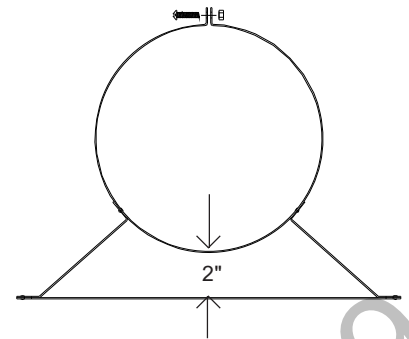

FIGURE 46 - Standard Wall Band
The Standard Wall Band (Figure 46) provides the required 2" (50mm) minimum clearance. For lateral stability of the chimney above the Wall Support, a Wall Band must be installed along an outside wall.
2. Secure the Wall Band bracket to the wall using two (2) 6d (2") spiral nails or #8 x 2" wood screws through the pre-drilled holes (see Figure 46). For concrete or brick veneer walls, use suitable masonry fasteners or other anchoring systems.